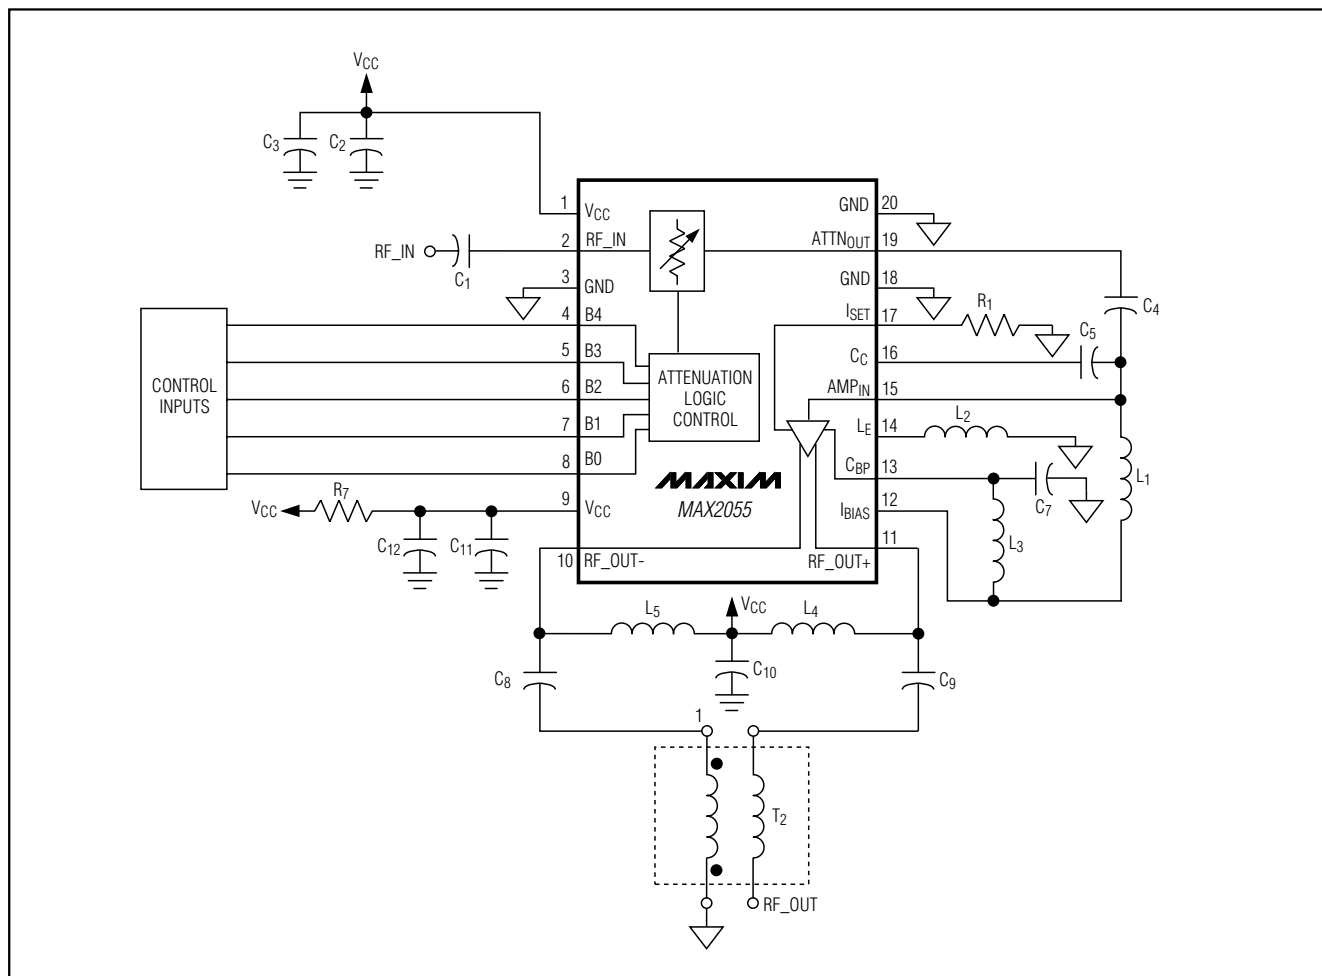

Figure 2. Low-Cost Application Circuit
(Circuit of Figure 2,  $V_{CC} = 5.0V$ ,  $R_1 = 909\Omega$ , max gain, ( $B_0 = B_1 = B_2 = B_3 = B_4 = 0$ ),  $P_{OUT} = 5dBm$ ,  $T_A = +25^\circ C$ , unless otherwise noted.)
**Table 2. Suggested Components of Circuit of Figure 2**
feedback topology. This amplifier is optimized for a frequency range of operation from 30MHz to 300MHz with a high-output third-order intercept point (OIP3). The bias current is chosen to optimize the IP3 of the amplifier. When  $R_1$  is  $1.13k\Omega$  ( $909\Omega$  if using the circuit of Figure 2), the current consumption is 240mA while exhibiting a 40dBm typical output IP3 at 70MHz. The common-mode inductor,  $L_2$ , provides a high common-mode rejection with excellent amplitude and phase balance at the output.  $L_2$  must handle the supply current and have DC resistance less than  $0.2\Omega$ .